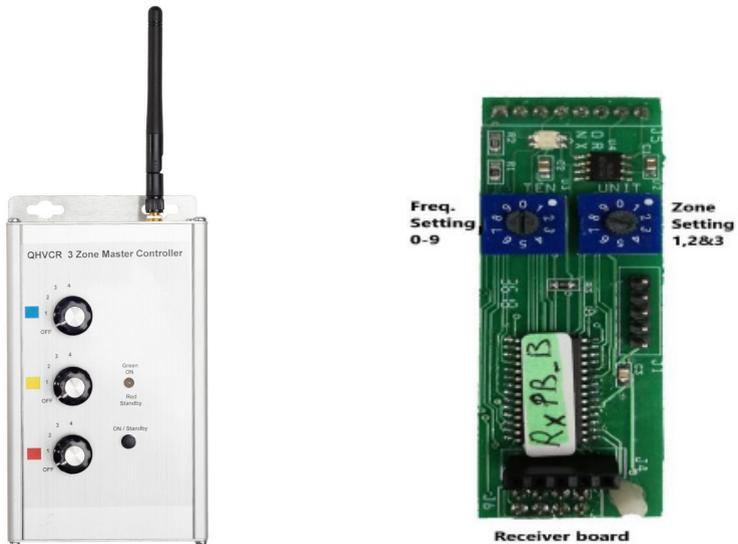

Fig 4
3. The QHCxxMR unit is preset to the Blue zone (1). Turn the Blue control dial to position 2. The heaters connected to the QHCxxMR units will come ON at the minimum setting 33%. Continue to turn the Blue control dial through positions 3 to 5 until you reach the desired setting. The settings are **1 = 0%, 2 = 33%, 3 = 50%, 4 = 66% & 5 = 100%**.
4. QHCxxMR units which are preset to Yellow & Red zones are controlled by the Yellow & Red control dials respectively and will operate as above see Fig 4.